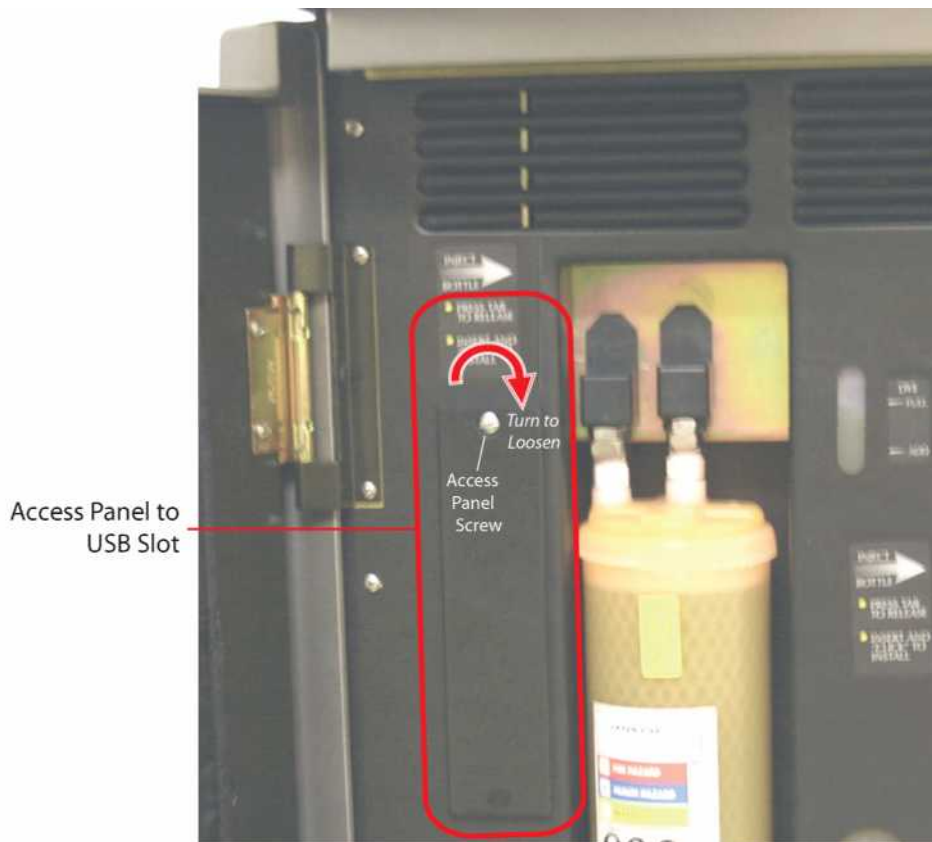

Figure 26A–USB Access Panel Location
1. Open the front door of the laser, and locate the access panel that covers the USB slot, see **Figure 26A**.